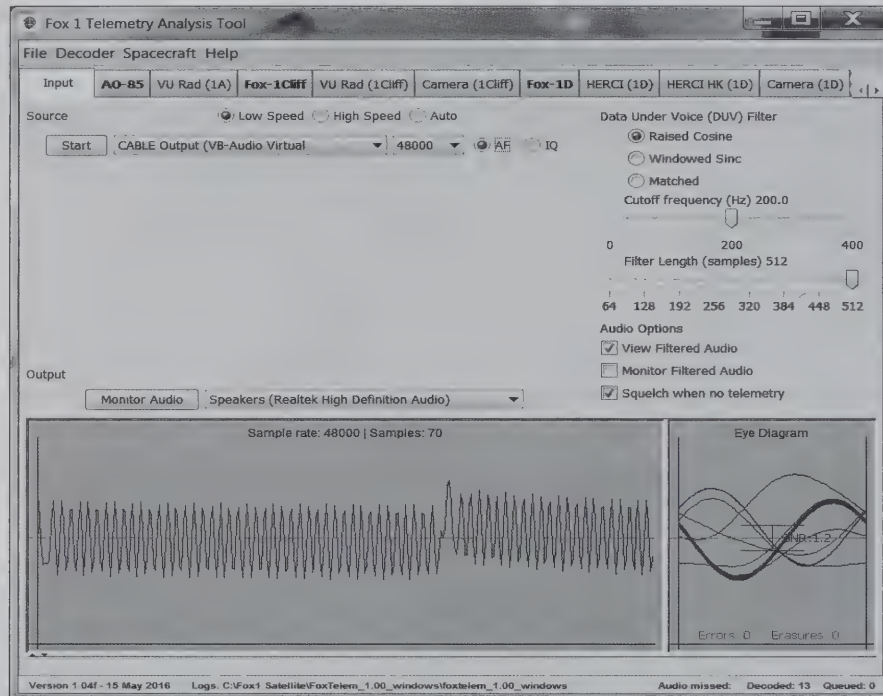

Figure 8.
8. From the "Select Audio source and press start" drop down box, select "CABLE Output (VB-Audio Virtual," sampling rate "48000" (Default), "AF" and "Low Speed"). (See Figure 8.)